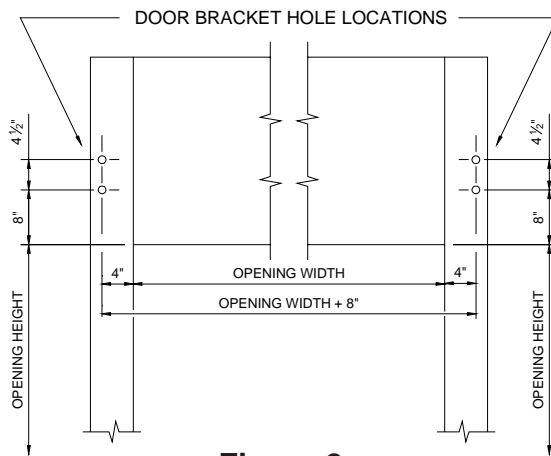

Figure 2.
3.4 Pre-drill jambs to accept door brackets; 7/16" diameter holes for 3/8" nuts and bolts in steel jambs, proper size pilot hole for 3/8" lag bolt in wood jambs. Hole locations are shown in Figure 2. Do not pre-drill jambs for door guide installation. NOTE: Door must be hung level to insure proper tracking.